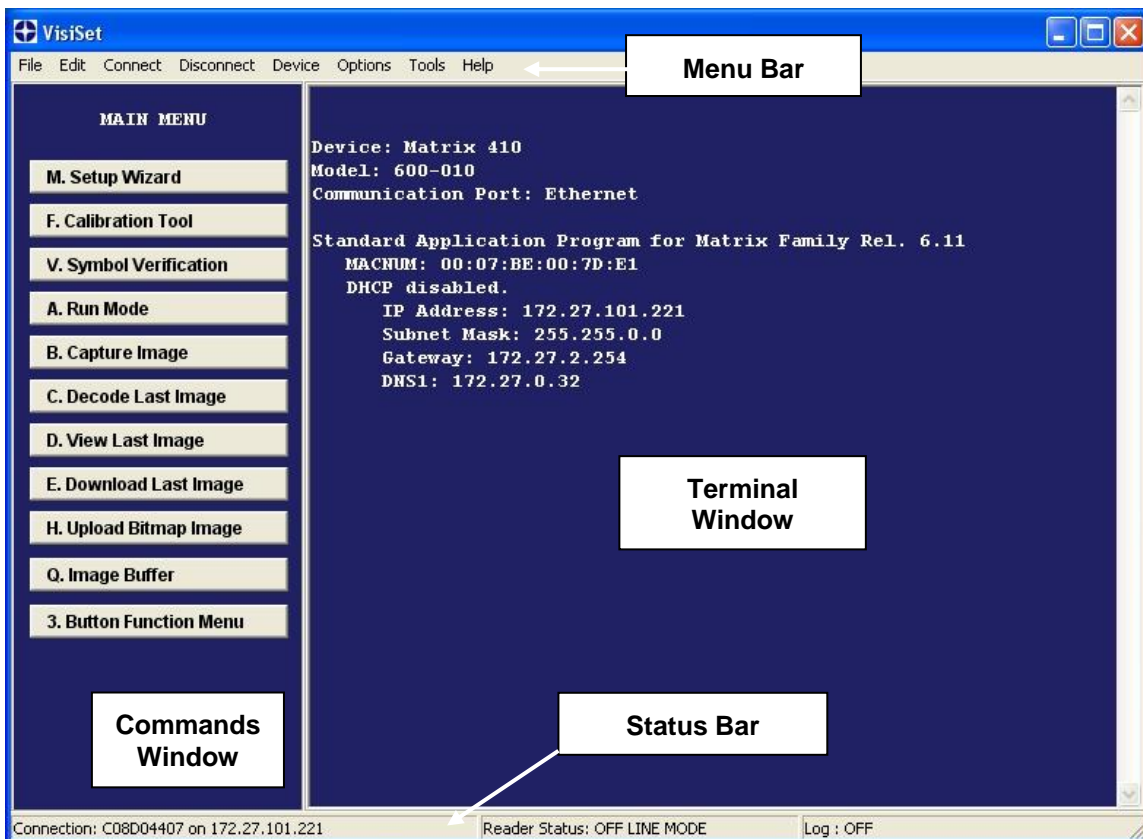

Figure 118 - Main Window
Upon connection, Matrix 410™ exits Run Mode and displays the Main Menu on VisiSet™ with all the commands necessary to monitor your reader's performance. You can select these commands using the mouse or by pressing the key corresponding to the letter shown on the button. See Figure 118.
The **Options** item from the VisiSet™ menu (see Figure 118) presents a window allowing you to configure:
6. Close the Parameter Setup window and press **Disconnect** on the VisiSet™ menu bar (see Figure 118) or launch **Run Mode** from the VisiSet™ Main menu.